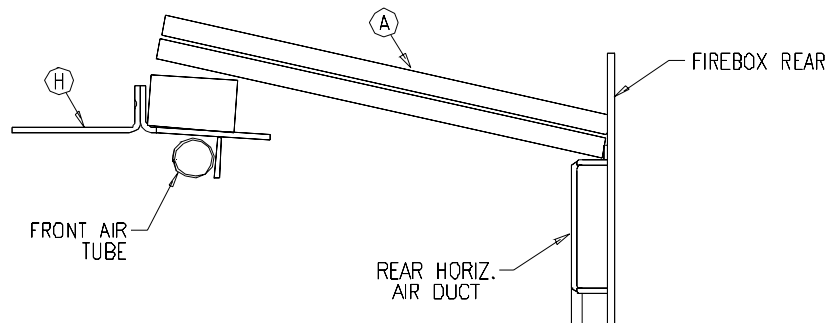

Figure 4.1b
- Now install one brick (1.25" x 2.12" x 9.00") on top of baffle support and slide it under the fibre baffle boards (see fig 4.1b).